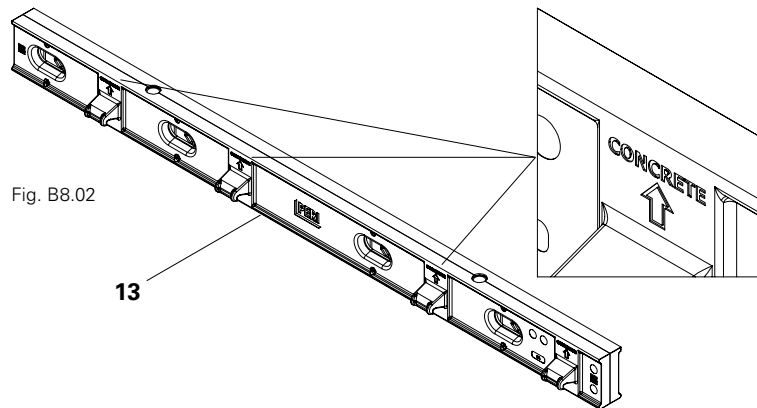

Fig. B8.02
- mount the DUO couplers (21) as shown in the arrangement.
The filler support (16) is equipped with teeth that grip into the connector pockets (10.2) of the panel. The teeth must point away from the concrete (10.7), see DWC wall thickness compensator. (Fig. B8.02 + B8.03)